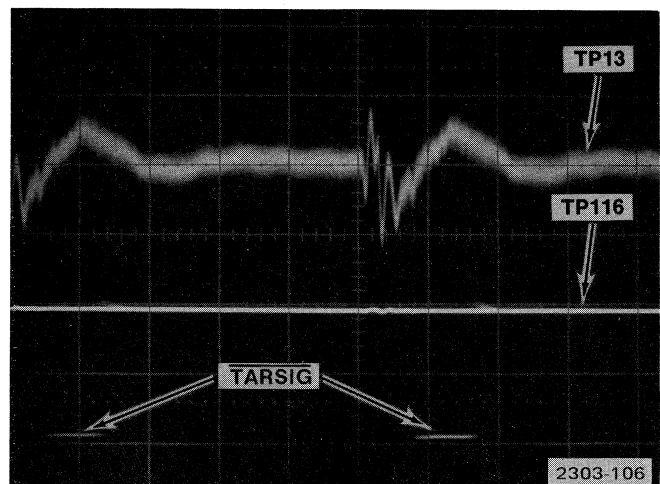

Fig. 4-27. Hard Copy Waveforms. Sweep rate: 0.5  $\mu$ s/division. Vertical sensitivity; TP13 50 mV/division; TP116 2 V/division.
f. Press the COPY switch. Adjust R26 on the Hard Copy Amplifier Board so that the voltage on TP13 (channel 1) is as low as possible without a target signal (TARSIG) appearing on TP116 (channel 2). See Fig. 4-27 for waveforms.